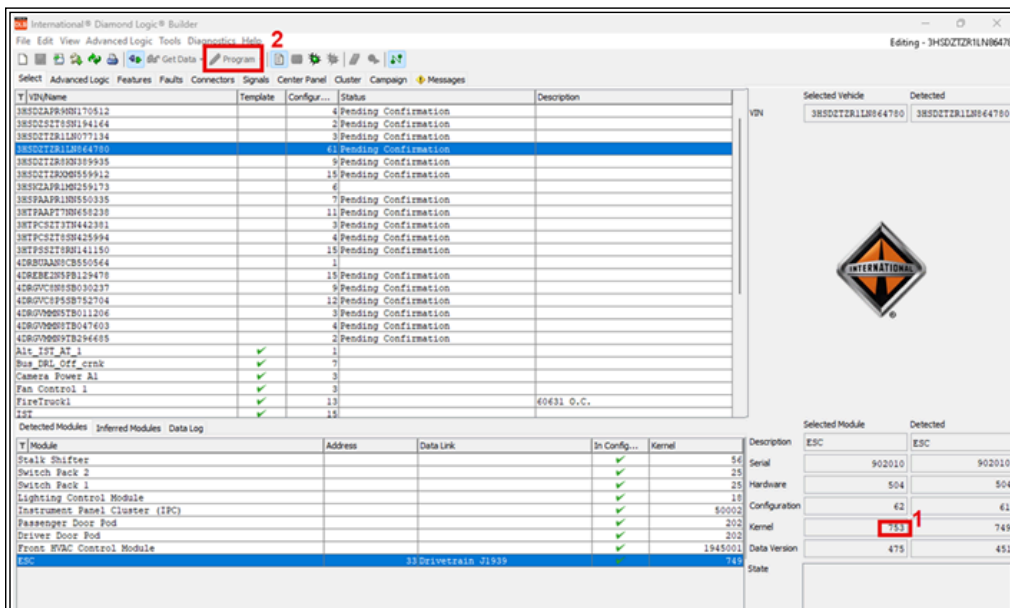

Figure 2: Preparing for Programming
3. Verify the selected kernel shows as 753 or later (Figure 2, Item 1), then hit the program button (Figure 2, Item 2).